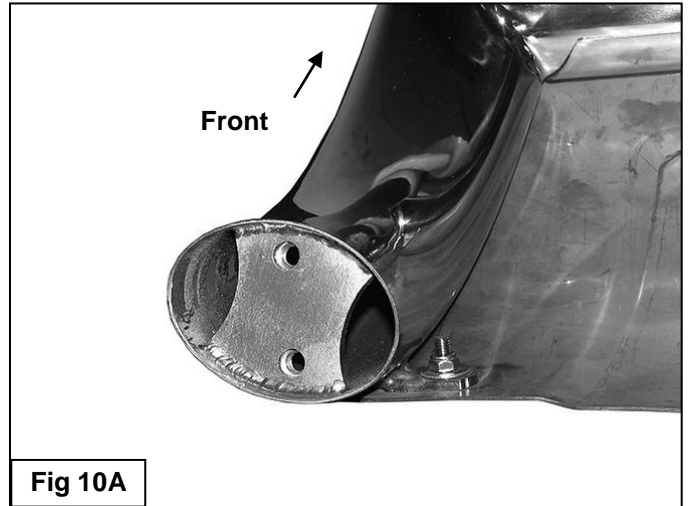

Fig 10A
3. Next, carefully unwrap the Bull Bar. Select the driver side Bull Bar Mounting Bracket, **(Figure 9)**. Attach the Bracket to the end of the Bull Bar with (2) 8mm x 35mm Hex Bolts, (2) 8mm Lock Washers and (2) 8mm Flat Washers, **(Figures 10A & 10B)**. Center the mounting flange on the Bracket with the end of the tube on the Bull Bar. Snug but do not tighten hardware. Repeat this Step to install the passenger side Mounting Bracket.